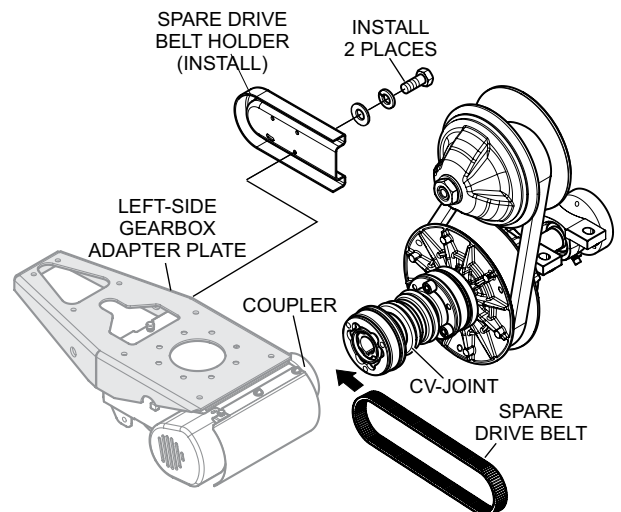

Figure 22. Spare Drive Belt Routing
- Mount new spare drive belt and cover (Figure 22) onto left-side gearbox. Reinstall the 2 bolts that secure the spare belt holder to the left-side gearbox adapter plate.